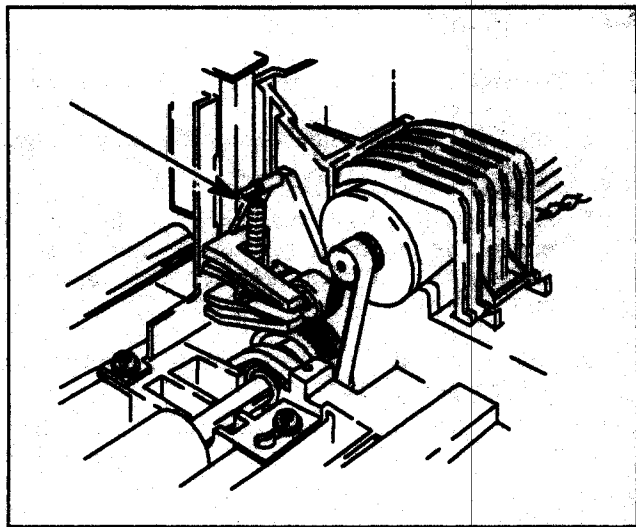

Figure 6-16. Grit Shaft Drive Belt Tension Spring
- c. Remove the grit shaft drive belt tension spring with needle nose pliers or combination spring tool. See Figure 6-16.